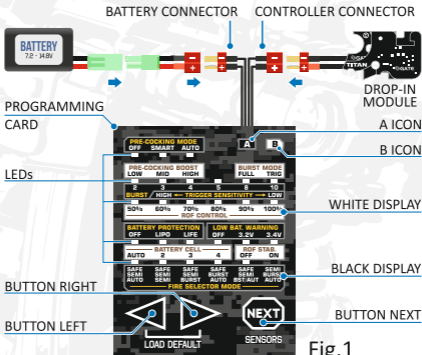

Fig.1
1. Connect the battery to the Programming Card. The LEDs light on and start blinking (Fig.1).